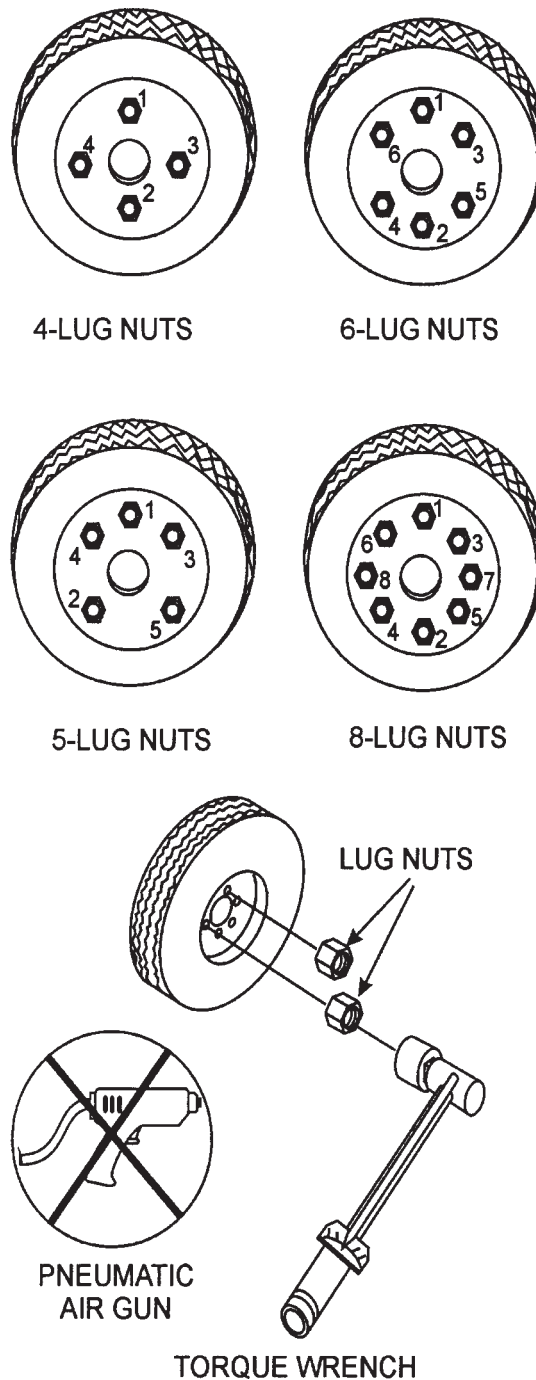

Figure 59. Wheel Lug Nuts Tightening Sequence
2. Torque all lug nuts in sequence. See Figure 59. **DO NOT** torque the wheel lug nuts all the way down. Tighten each lug nut in 3 separate passes as defined by Table 18.